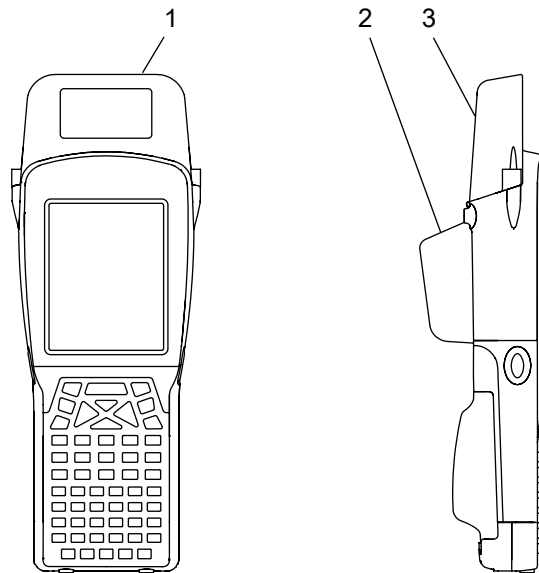

Fig. 8 : Handheld Programmer BIS M-871-1-0__-X-004 / BIS M-871-1-0__-X-005
- ▶ On the Windows CE desktop, tap on **“Start > Programs > BALLUFF RFID > BIS M RFID”** (depending on the Windows CE® version, instead of “Start” tap on the 4-color Windows® logo. (See Fig. 8) or,